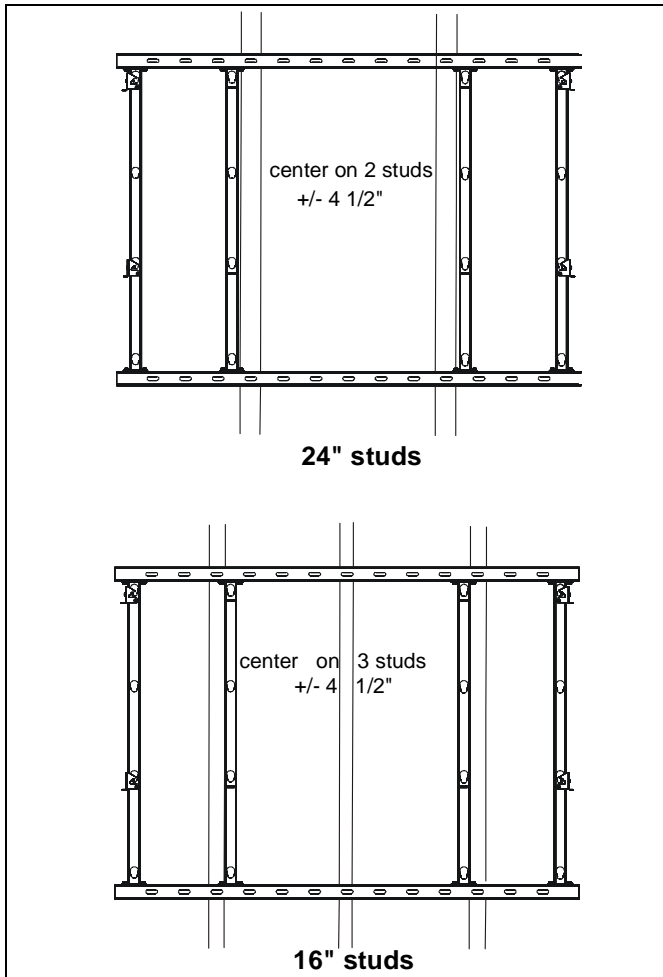

Figure 4
2. Determine mounting slots to be used for installation. (See Note below and Figure 4)
NOTE: If mounting to center of 24" studs, slots used must be centered $\pm 4\ 1/2"$. For 16" studs, slots used must be centered over three studs $\pm 4\ 1/2"$. (See Figure 4)